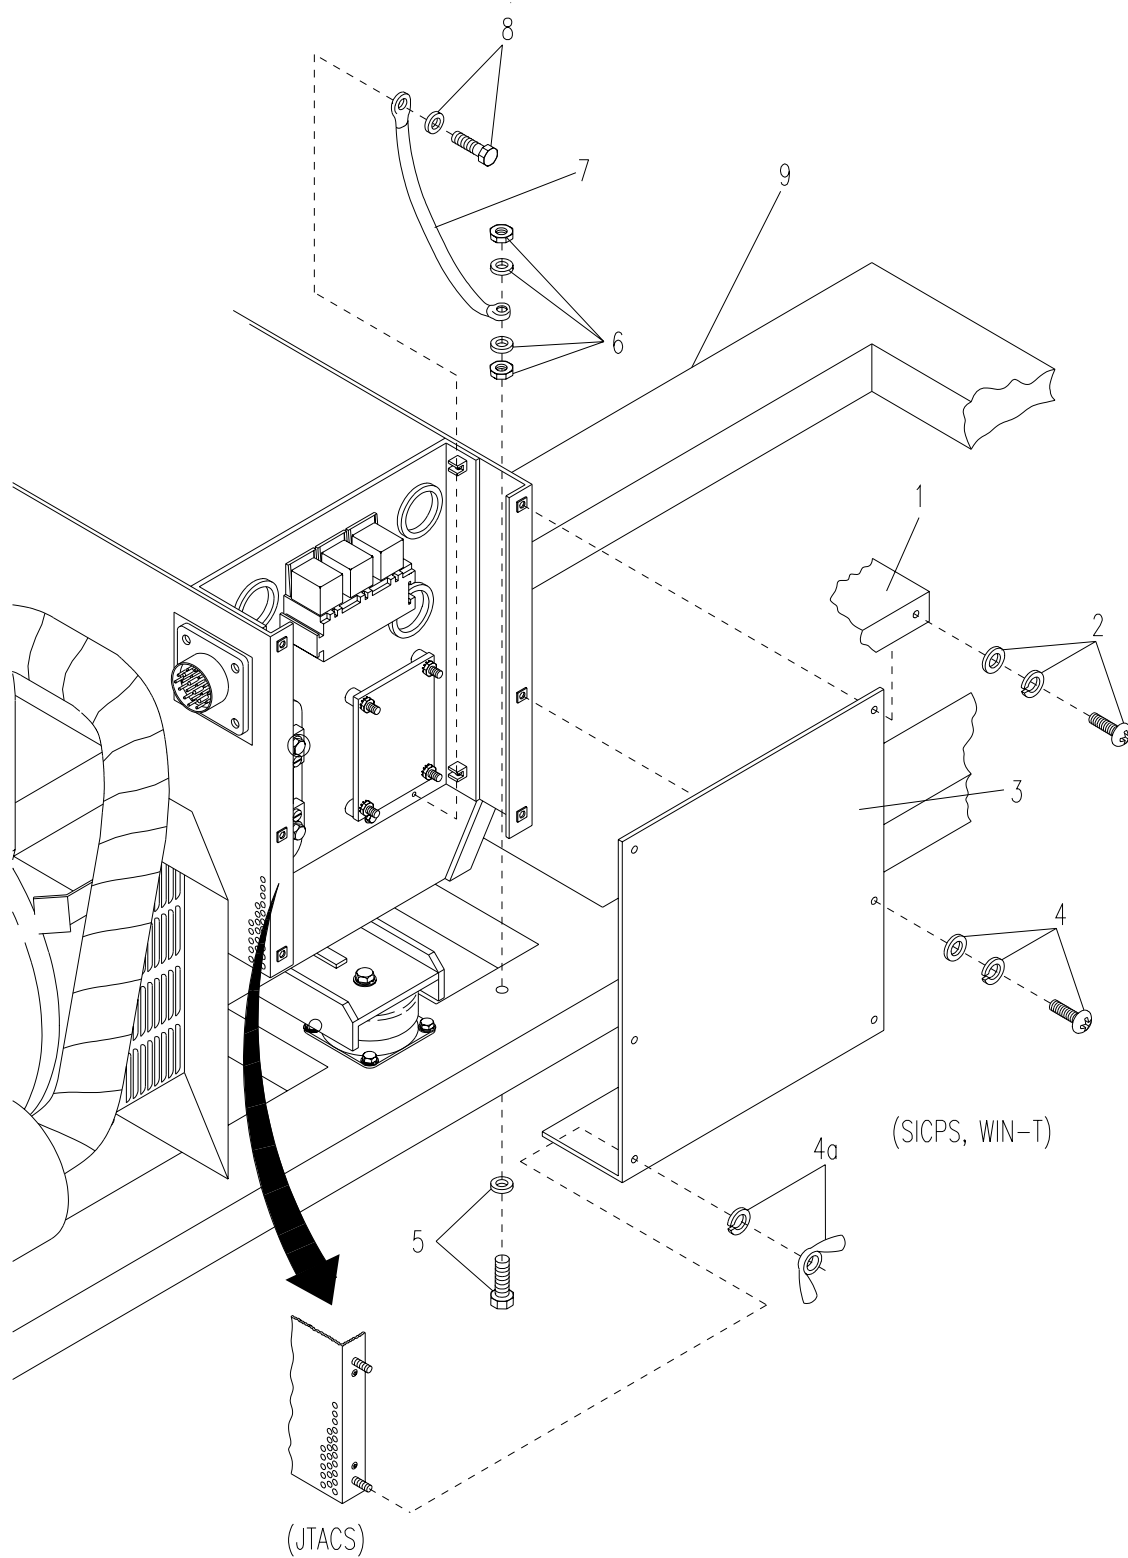

Figure 4-42. Ground Strap
- a. Remove four screws (JTACS) (2, Figure 4-42) or four slotted hex-head bolts (SICPS and WIN-T), flat and lock washers securing generator housing top cover (1).
- b. Remove two screws, two wing nuts and lock washers (4a) (JTACS), or four slotted hex-head bolts (SICPS and WIN-T), flat and lock washers (4), and generator housing side cover (3) (muffler side).
- c. Remove one bolt and flat and lock washer (8) and ground strap (7).
- d. Remove one screw and flat washer (5), two nuts and lock washers (6), and ground strap (7) from frame assembly (9).
- e. Install ground strap (7) on frame assembly (9) and secure with one screw and flat washer (5) and two nuts and lock washers (6).
- f. Install ground strap (7) to generator and secure with one bolt and flat and lock washer (8).
- g. Install generator housing side cover (3) and secure with two screws and two wing nuts and lock washers (4a) (JTACS), or four slotted hex-head bolts (SICPS and WIN-T), flat and lock washers (4).
- h. Install generator housing top cover (1) and secure with four screws (JTACS) or four slotted hex-head bolts (SICPS and WIN-T), flat and lock washers (2).